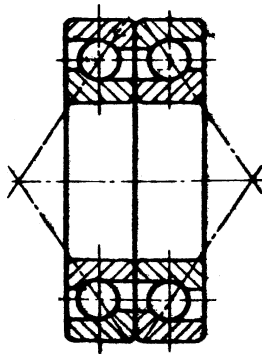

Fig. 3 O-arrangement of angular contact ball bearings.
- 4.3 Insert bearing (320) into retainer ring (505.2) (O-arrangement in accordance with Fig. 3) heat them up in an oil bath up to 80°C approx. and slip them onto shaft (210) and tighten with the aid of hex. nut (920.15).